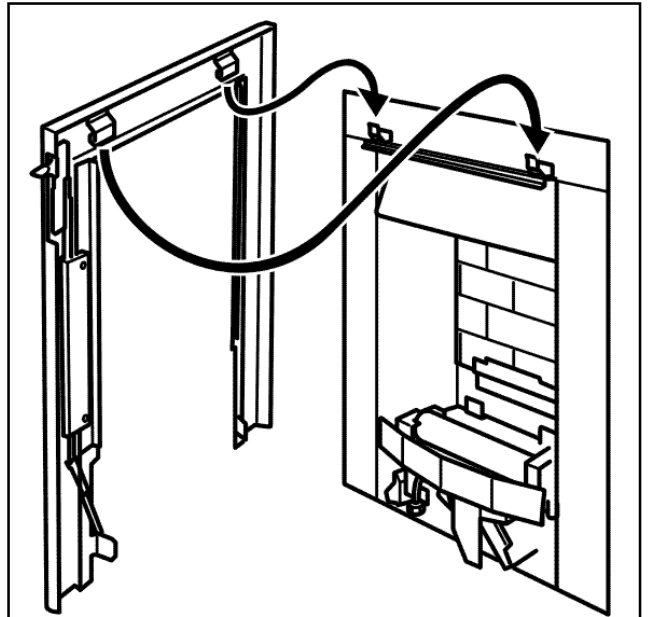

Figure 20. Fascia location (Shown with Alpha / Elegant fascia)
1. Slide the control button upwards as far as it will go. Make sure that the bottom of the linking bar is higher than the bottom of the fascia. Place the fascia against the fireplace front surface so that the two retaining plates at the back of the fascia are directly above the two upper retaining brackets at the top of the convection box. Lower the fascia making sure that the retaining plates locate fully over the brackets on the convection box (See figure 20).